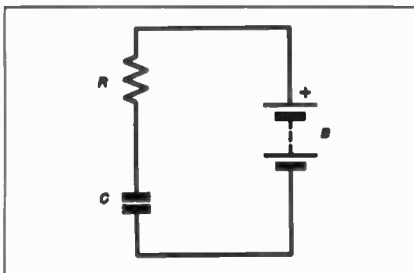
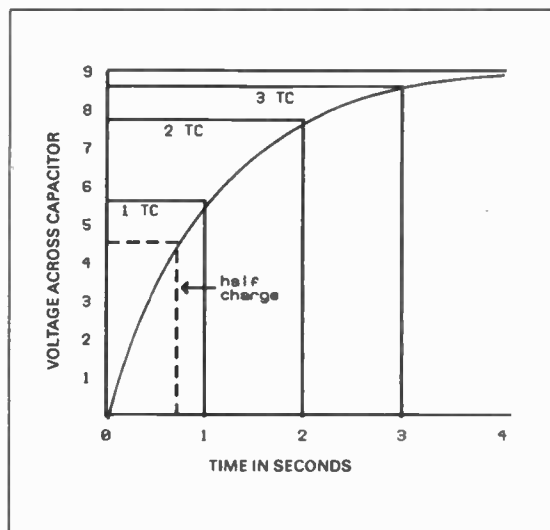

Fig. 1. Charging a capacitor (C) from a battery (B) through a resistor (R).
Fig. 2. Charging graph using a 1µF capacitor through a one megohm resistor from a 9V battery.
When an initially uncharged capacitor (C) charges from a battery (B) through a resistor (R), it takes a certain time to do so - see Fig. 1. The charging pattern obtained when a 1µF capacitor charges through a 1MΩ (megohm) resistor from a 9V battery is shown in Fig. 2.
Note that the voltage across the capacitor is proportional to the charge stored and may therefore be used to represent it. In Fig. 2, when the voltage reaches 4.5V the charge will be 50 per cent of maximum (shown by the dotted lines).
The time taken for the voltage across the capacitor to reach this figure (5.7V on a 9V supply) is called the *time constant* and, in the example, is one second. This is marked "1 TC" in Fig. 2.
The 1µF capacitor charging through a 1MΩ resistor will therefore provide a time constant of one second, which is shown in Fig. 2. There is therefore no need to go to the trouble of taking measurements and drawing a graph to determine the time constant.
per cent, and since there is already 63% of the total charge held by the capacitor, the percentage of supply voltage appearing across the capacitor after two time constants will be 86 per cent. For a 9V supply this corresponds to about 7.7V (marked "2 TC" in Fig. 2).
Meanwhile, the capacitor being measured,  $C_t$ , charges through resistor, R1, so the voltage across it rises and follows the form shown in Fig. 2. R1 is selected from a chain of resistors using the rotary Range switch, S1 (inset in Fig. 3).